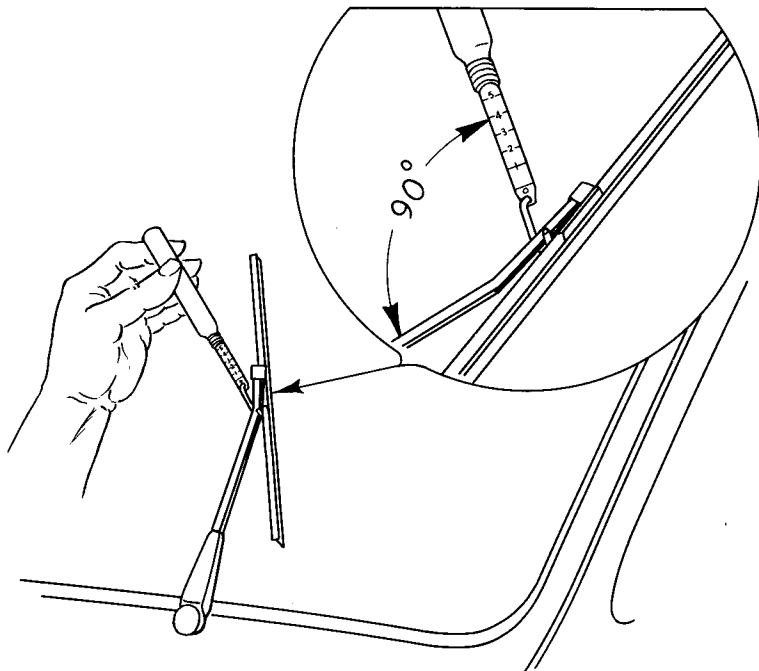

FIG. 2
**2. ARM TENSION** If the blade does not wipe clean, check the arm tension with a Postalett or similar scale calibrated in ounces. Attach the scale under the wiper blade arm where it is connected to the blade. See Fig. 2. Pull away from the windshield at right angles to the arm so that the blade will be just off the glass. Jiggle the wiper arm with the opposite hand until it reaches a position of free rest. The scale should show at least 4 ounces. If the reading is under 4 ounces, apply a few drops of oil at the end of the tension spring and arm pivot rivet; work the oil in thoroughly. If the pressure does not increase, replace the arm.